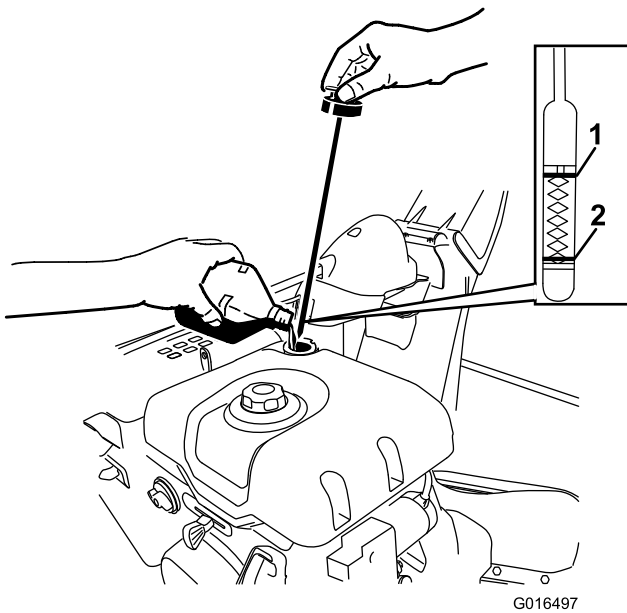

Figure 50
- A. Remove the dipstick and slowly pour oil into the oil-fill tube to raise the oil level to the Full mark on the dipstick (Figure 50). **Do not overfill.**